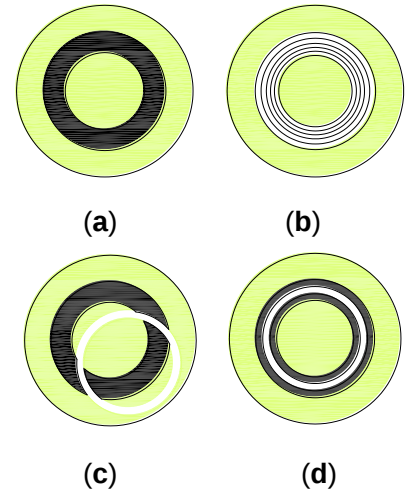

Fig. 21
- Observe from the telescope. The bright ring and dark ring should be coincided with each other as shown in **Fig. 21 (d)**.
- If the bright ring is still obscure as in **Fig. 21 (b)**, adjust the condenser focusing knob.
- If the two ring images are not coincided as shown in **Fig. 21 (c)**, adjust the two centering screws on the phase contrast condenser.